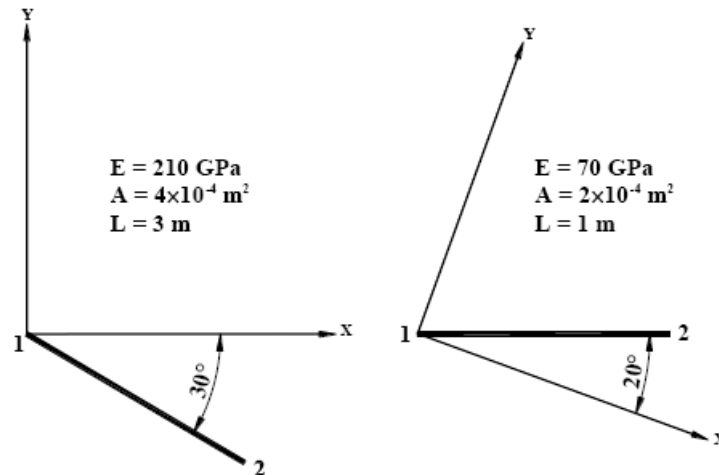

Figure P2.1
1. For each assembly of the bar elements shown in **Figure P2.1**, determine the global stiffness matrix.